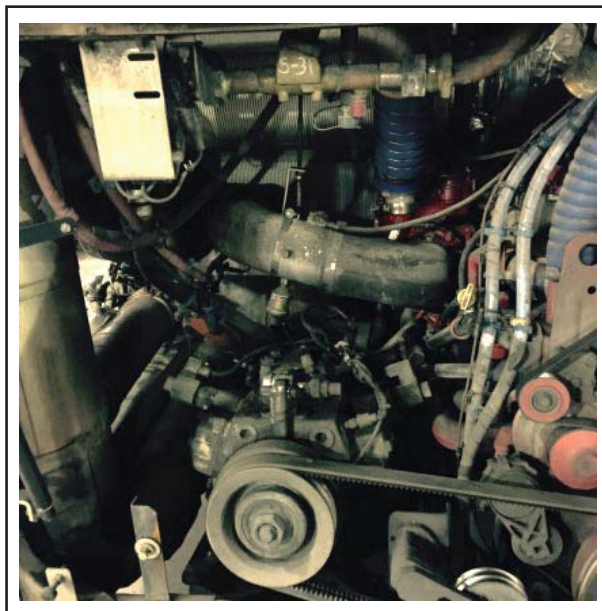

Figure 1 - AC Compressor with Hoses Removed
- 1.2. Remove old AC hoses from compressor. See Figure 1.